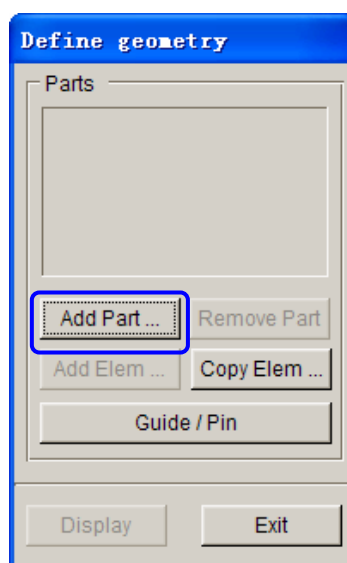

Figure 7.15 Define geometry dialog box
5. The DEFINE GEOMETRY dialog box illustrated in Figure 7.15 is displayed. Next, click the **Add Part...** button in the dialog box.
22. The DEFINE GEOMETRY dialog box illustrated in Figure 7.15 is displayed. Next, click the **Add Part...** button in the dialog box.